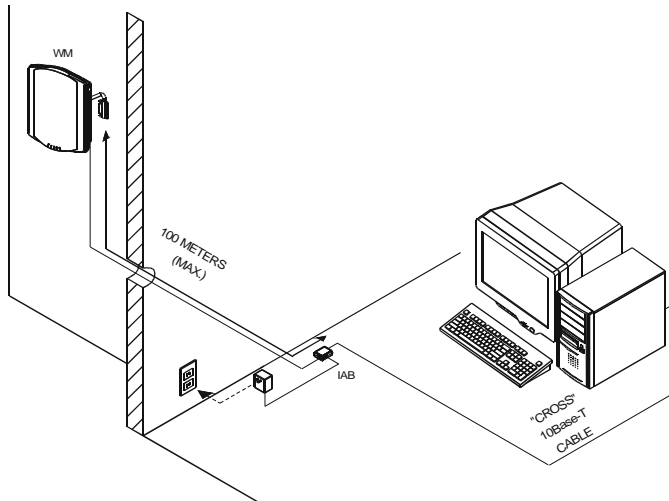

Figure 3-5 Single User Installation Connecting the Ethernet Cable
1. Connect the Ethernet cable from the power/data adapter to a PC using a "cross-over" cable format for single user installations, as shown in Figure 3-5.